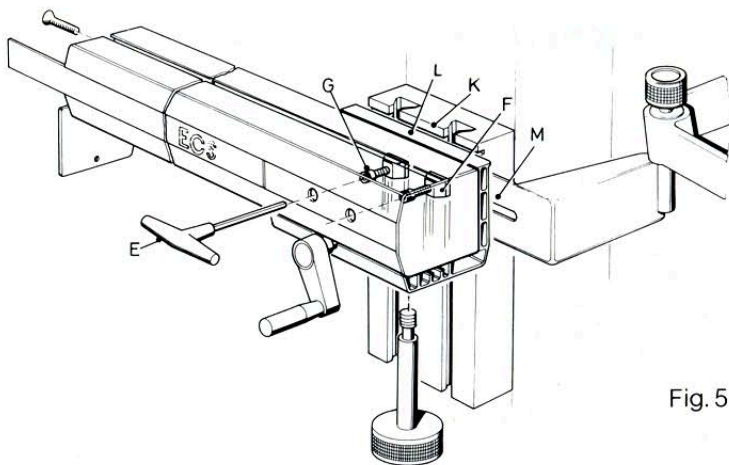

Fig. 5
F. Mounting the ECS-5 Accessory-tray: (see fig. 5)
- C. Mount the gearlever to the sliding piece according to figure 5.